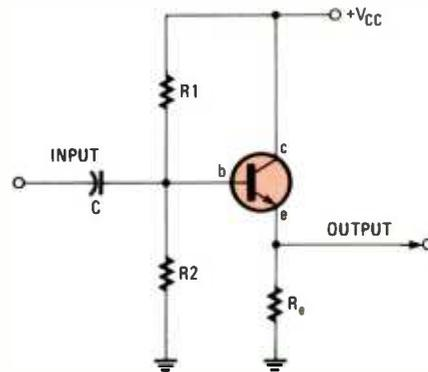

Fig. 17—This is the basic circuit for a common-collector amplifier, also called an emitter-follower amplifier.
A simple common-collector amplifier circuit is shown in Fig. 17. The base bias is derived from R1 and R2 as before, and a resistor  $R_e$  is connected between emitter and ground. The output is taken from across this resistor. Note that the collector is connected directly to the supply voltage ( $V_{cc}$ ); there is no collector resistor. The AC input is applied to the base through a capacitor. Since the power supply's impedance between  $+V_{cc}$  and ground is virtually an AC short-circuit, the collector is really at ground as far as AC signals are concerned. The input is applied
The output of the circuit in Fig. 17 is taken from across the \_\_\_\_\_.
42. (emitter resistor) The voltage gain of the circuit in Fig. 17 is approximately one, actually a little less. Since the gain is essentially one, the output voltage equals the input voltage. This is referred to as *unity gain*. Further, the output is in phase with the input. Because the output is virtually the same as the input, the circuit is referred to as an *emitter follower*.
If the AC input to Fig. 17 is 3 Vrms, the output is \_\_\_\_\_ volts rms.